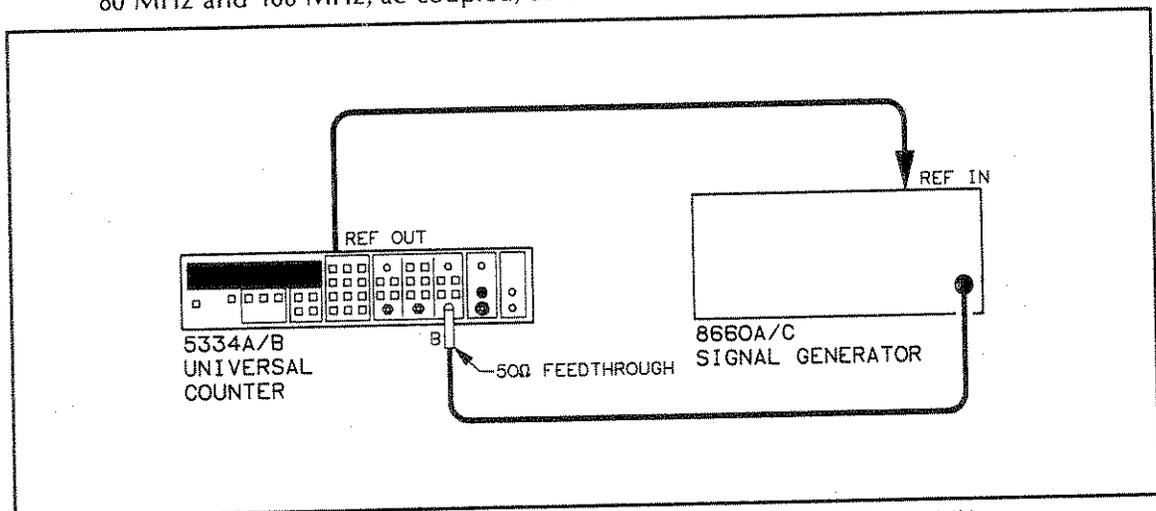

Figure 4-5. Channel B Frequency and Sensitivity Setup, 80 MHz-100 MHz
3. Connect the signal generator to the HP 5334A/B Input B using a 50 Ohm feedthrough connector as shown in *Figure 4-5*.